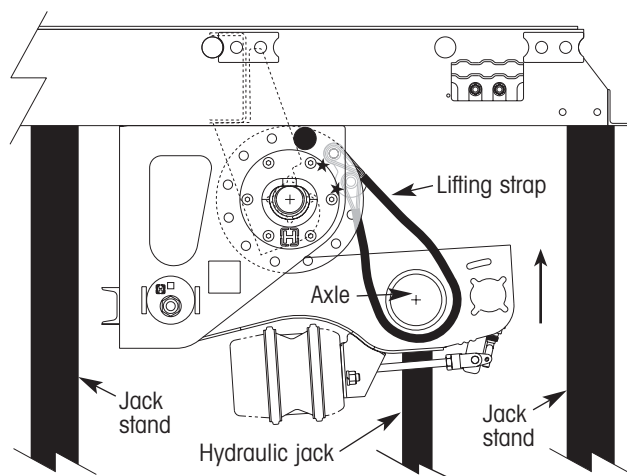

Figure 12. Raise the axle
8. Place a high-travel hydraulic jack under the axle and use the jack to independently raise the axle until there is slack in the lifting straps (figure 12).